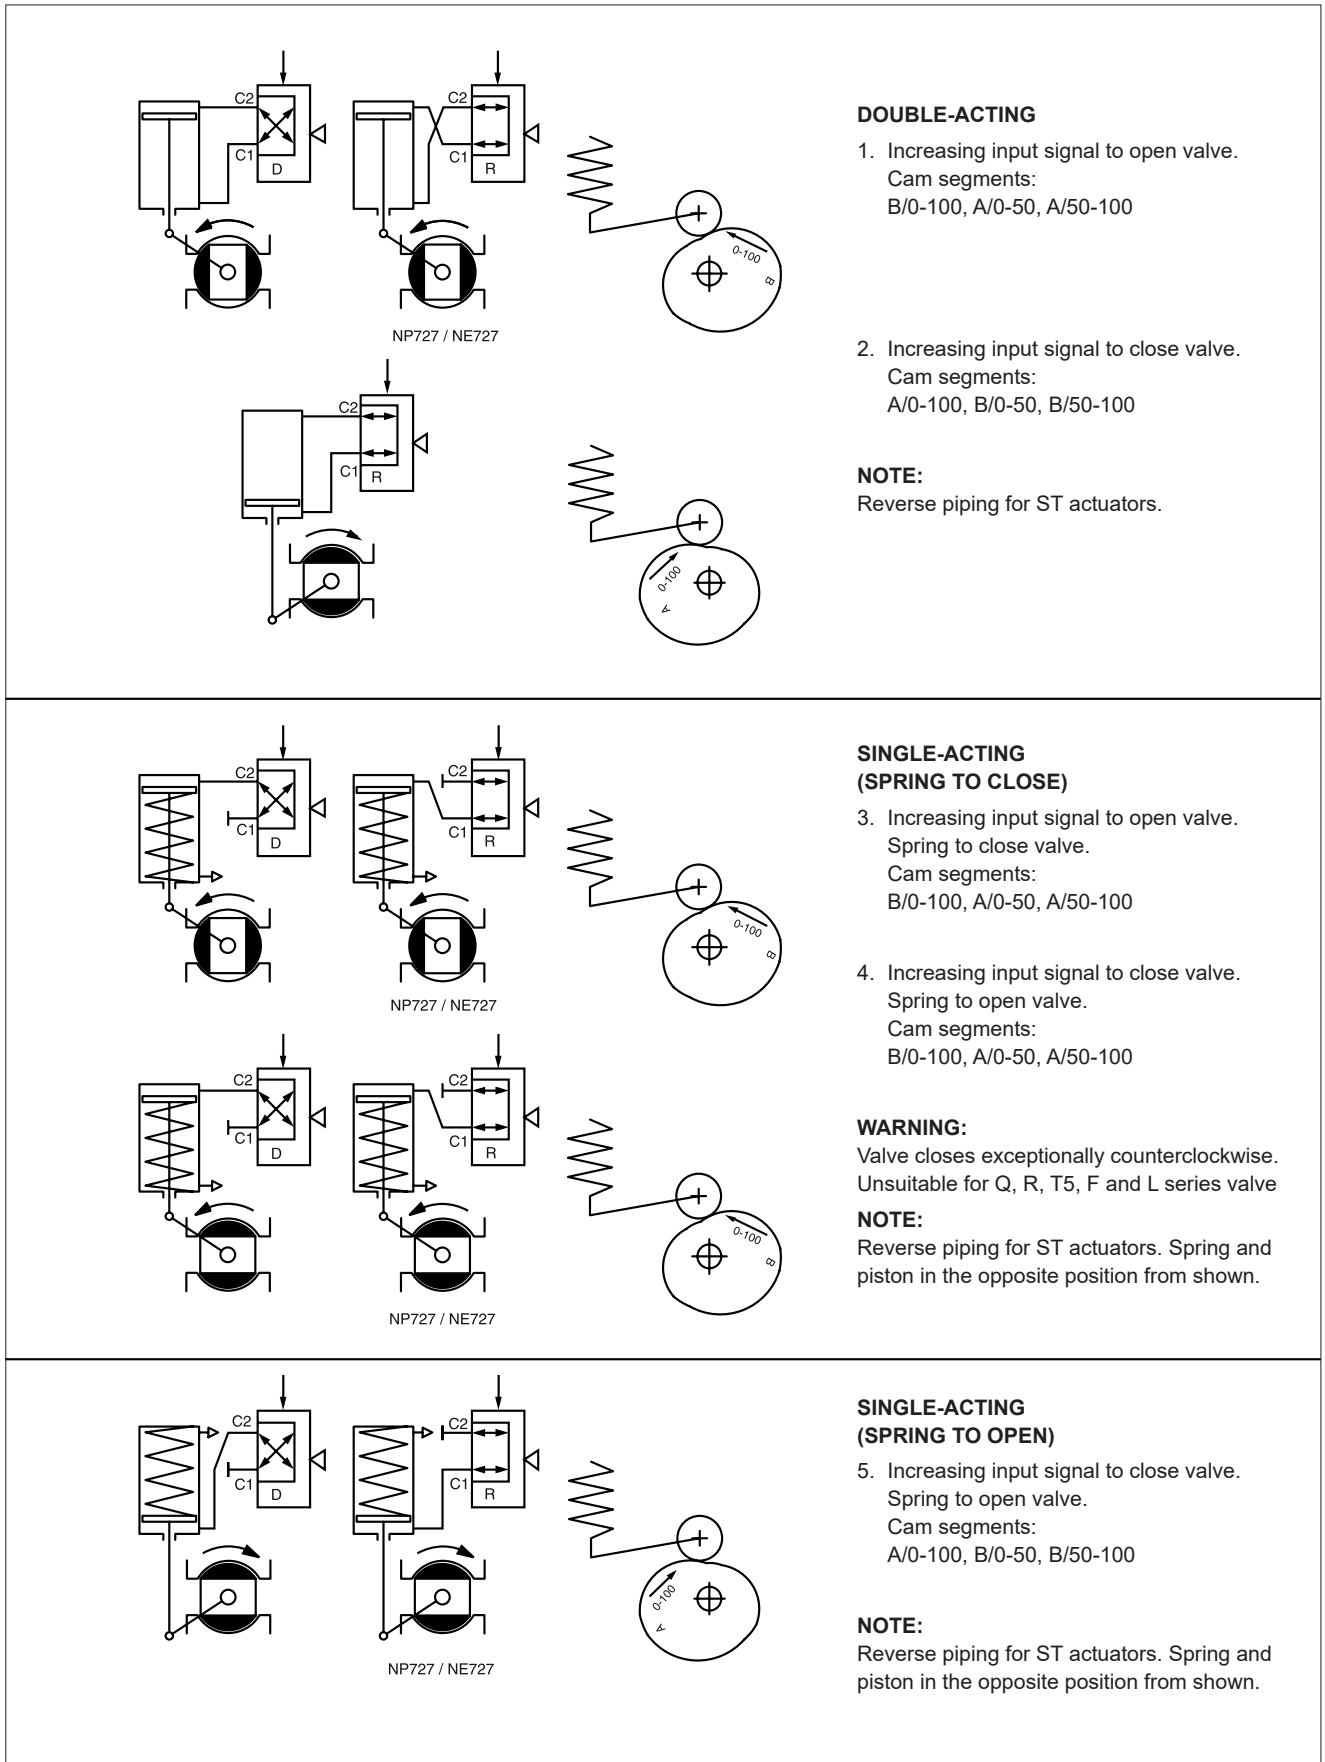

Fig. 5. Positioner actions
2. Install the pointer (only B\_U) parallel with the valve closure member and fasten the draught piece (2) with a screw (29) to the pointer cover (B\_U) or to the coupling (QP), as shown in Fig. 5. Secure the draught piece fastening screw with a sealant (e.g. Loctite) and tighten it properly.
3. Fasten the mounting bracket (1) to the positioner.
4. Fasten the mounting bracket (1) to the actuator.